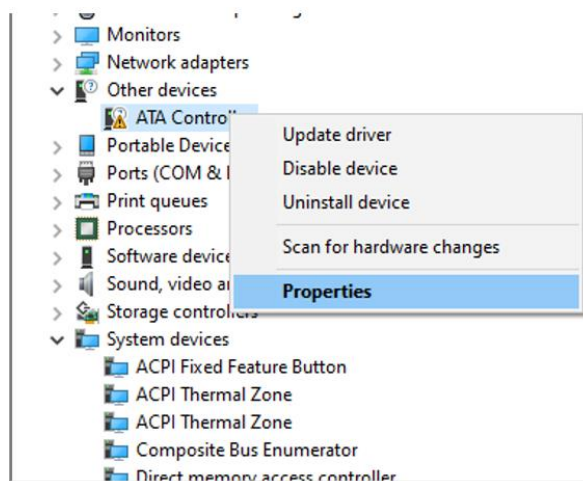

Figure 3.32. Showing Device Properties
2. Right-click the device and select **Properties** as shown in Figure 3.32.